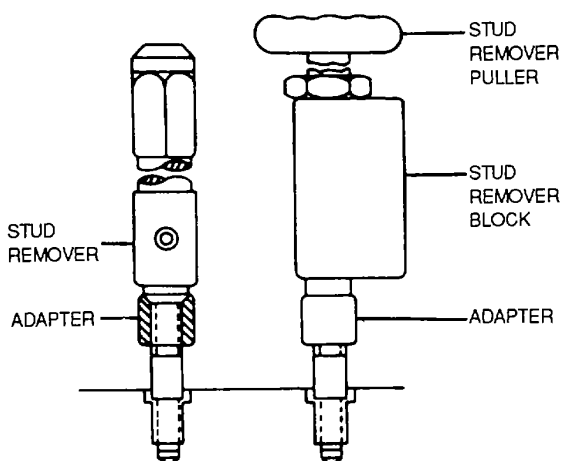

Figure 2-64. Stud Removal
- (1) Place adapter, as shown in figure 2-64, in stud remover.
- (2) Drive adapter down over threads of stud.
- (3) Remove studs by turning stud remover with a wrench. If threads in parent material pick up and stud remover cannot be turned, remove stud remover from adapter.
- (4) Place stud remover block and puller on adapter and remove adapter from stud.
- (5) Cut off stud close to parent material.